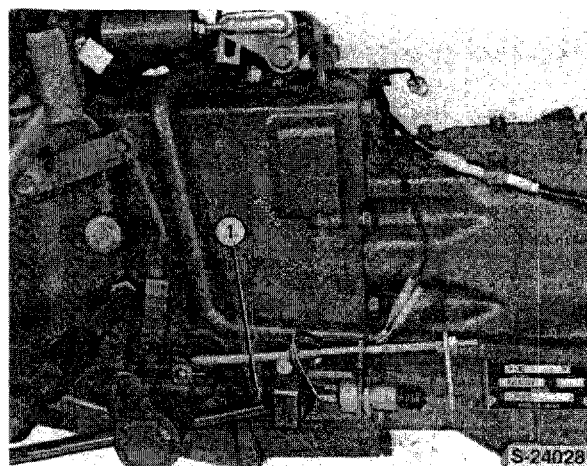

Figure 23
11. If not previously removed, remove the oil cooler return tube (1) and clamp, Figure 23.